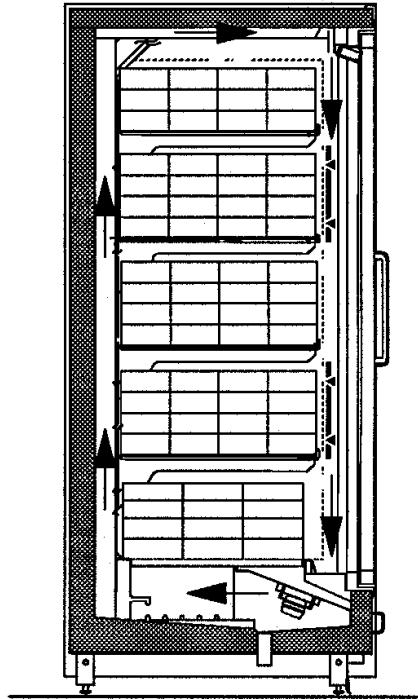

Fig. 1 – Vertical multi-deck cabinet with glass door
- Vertical multi deck with or without glass doors, using refrigerated air circulated by fans throughout the cabinet. Shown in figure 1.